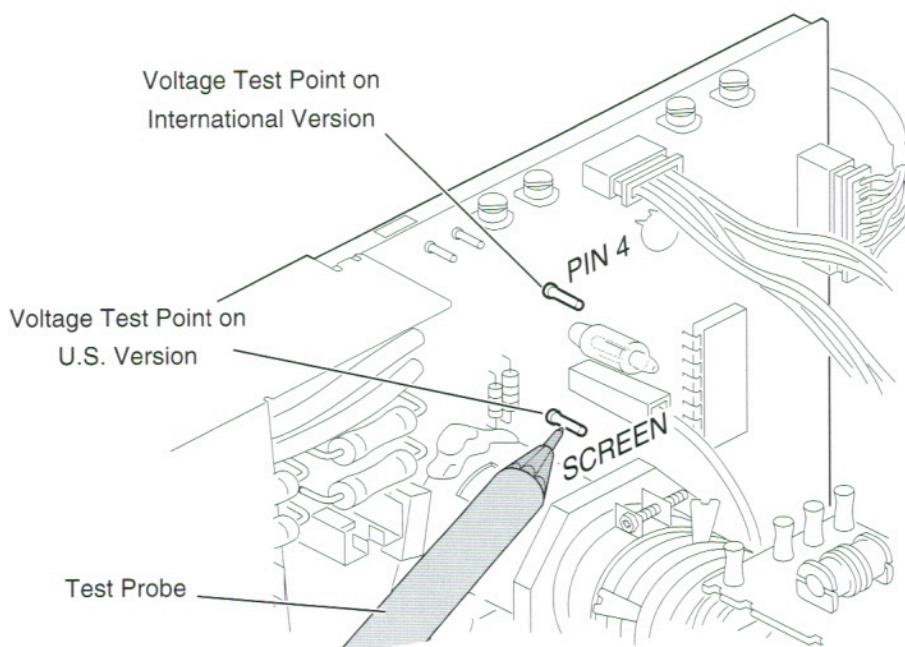

Figure 42. Voltage Test Points
9. Touch the high-voltage probe to the voltage test point (see Figure 42) labeled SCREEN (U.S. version) or PIN 4 (international version). Adjust the screen control until the voltmeter reads: